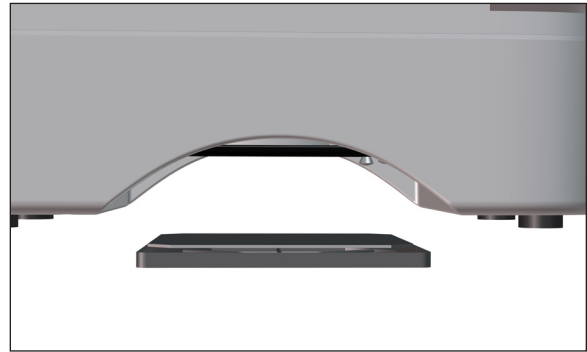

Figure 154 - Step 8 Re-attach filter retianer
8. Place the filter retainer with filter into position against the fan guard. Press firmly on all four sides until it snaps into place (Figure 154).